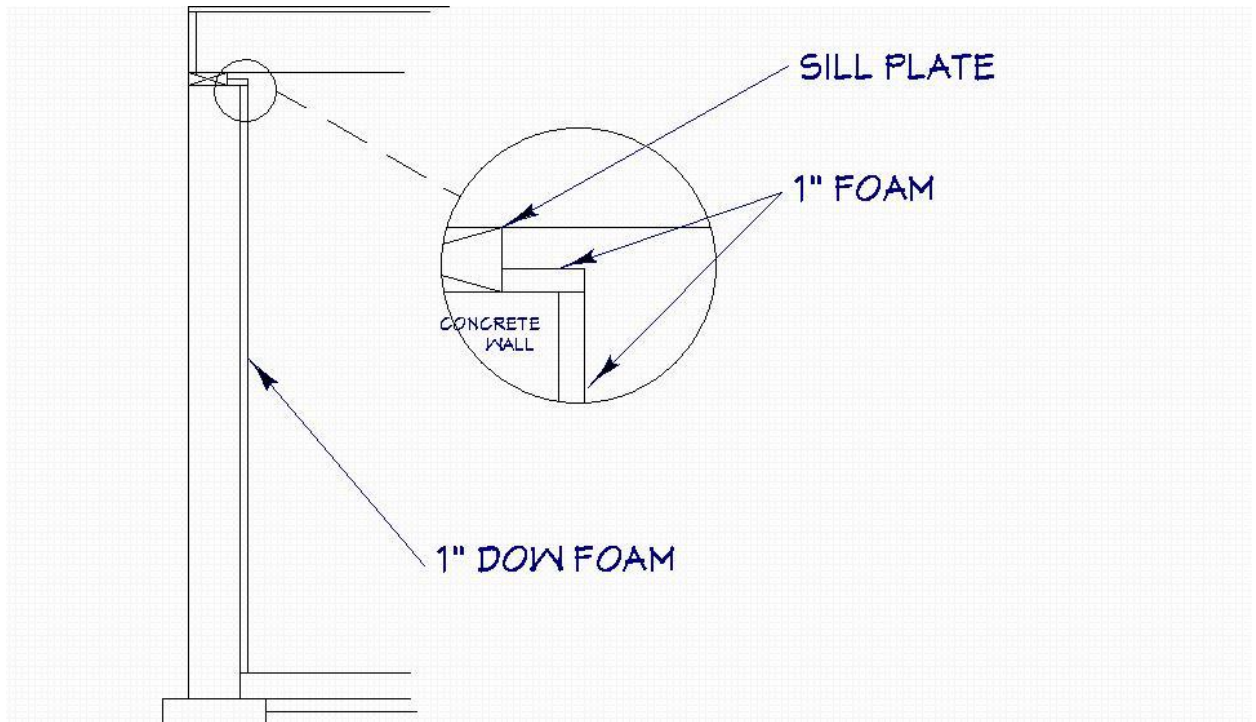

Figure 6-3. Basement Wall Insulation.
2. Before building any walls, cut 1" foamboard to cover the foundation walls behind any 2x4 walls. Apply foamboard from the floor all the way up the wall and also on the top of the foundation wall where the sill plate does not cover (see Figure 6-3).